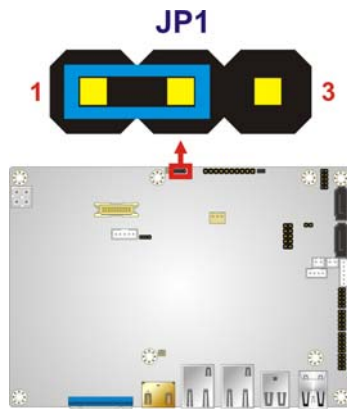

Figure 3-6: Clear CMOS Jumper Location
- Jumper Location:** See Figure 3-6